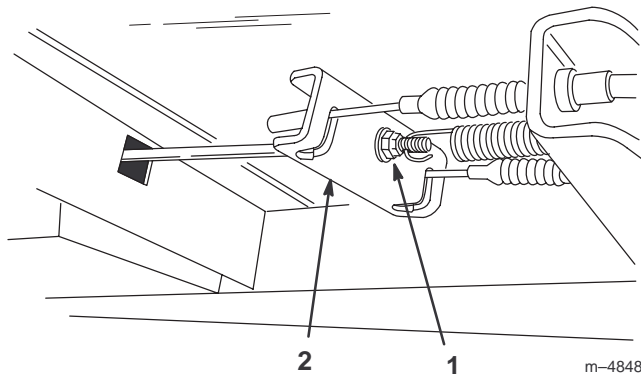

Figure 22
3. Tighten the cable adjusting screw, located beneath the floor panel, until the cables are snug in the brake equalizer (Fig. 22). Do not overtighten. There should be some free play in the brake pedal before the brake engages.